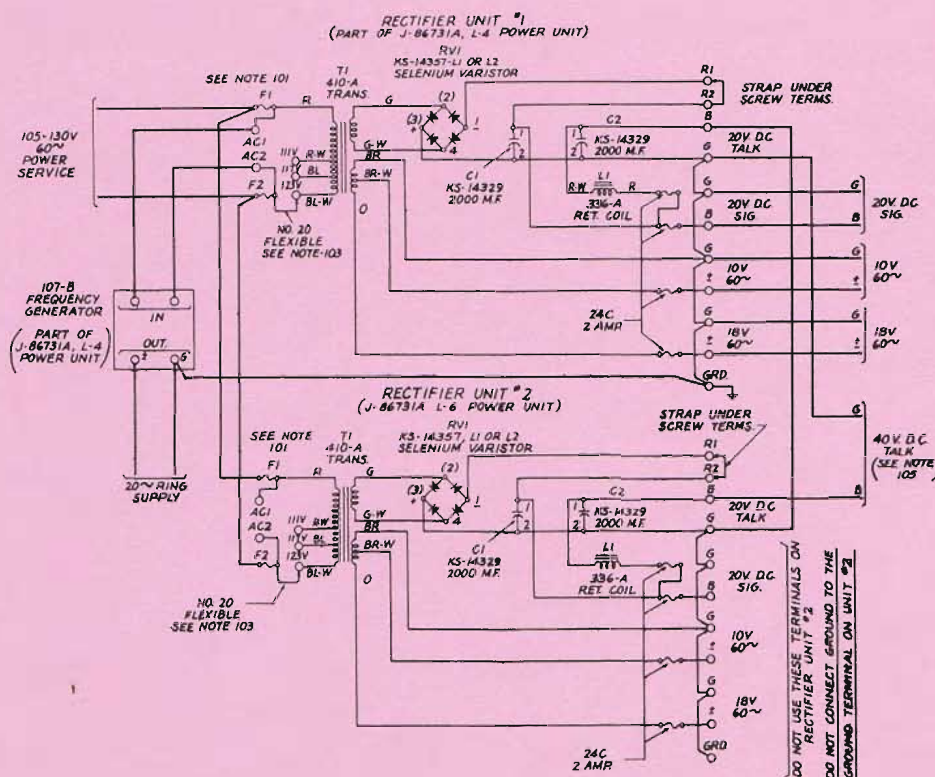

Fig. 10
5.07 Whenever additional voltage is required to operate 1A key telephone systems (50 type KTU, 1A KTU but not 1B KTU) associated with 555 PBX equipment, arrangements as shown in Fig. 10 (Dwg. H3075) may be used.